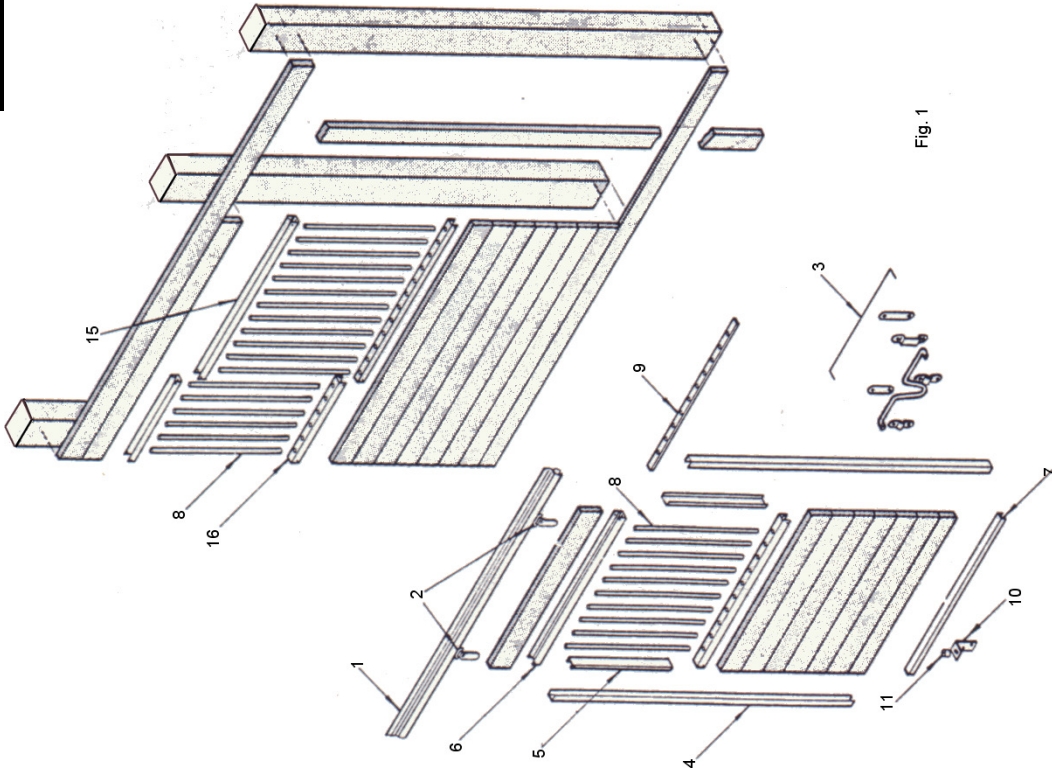

Fig. 1
- Insert (Item 8) Stall Grill Poles into Rail holes. (Refer to overall drawing of component Fig. 1).